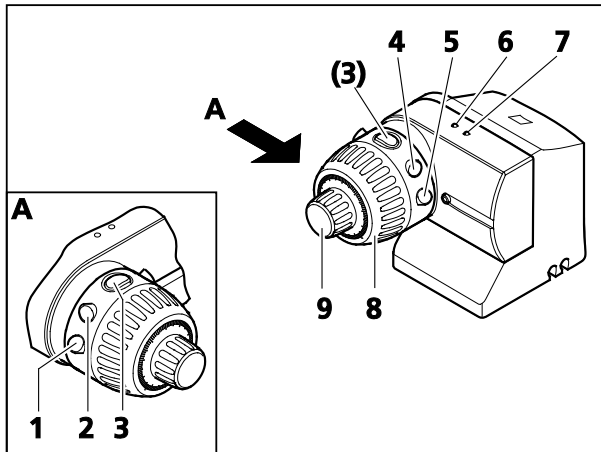

Fig. 27 Control unit on the MaRC
- Control of the focus motor by coarse (Fig. 27/8) and fine drive (Fig. 27/9)
- Travel to zoom clickstop positions by briefly pressing keys **1** and **2** (Fig. 27/1 and 2).
- Quick zoom – press keys **1** and **2** (Fig. 27/1 and 2).
- Quick zoom – press keys **4** and **5** (Fig. 27/4 and 5).
- Save a focus position – key **3** (Fig. 27/3), see also Section 4.2.6, page 42.
- Travel to a pre-saved position – key **3** (Fig. 27/3), see also Section 4.2.7, page 42.
- Reversing rotation of the MaRC unit – key **3** (Fig. 27/3), see also Section 4.2.8, page 42.
- Green control lamp (Fig. 27/6) for visual confirmation of an input or acceptance of a setting (corresponds to acknowledgement signal).
- Blue control lamp (Fig. 27/7) indicates readiness of the MaRC.
If a focus motor ready for operation is connected, the blue LED (Fig. 27/7) will light up.
The focus motor can be controlled quickly or slowly by turning the coarse (Fig. 27/8) and fine drive (Fig. 27/9).
When key **1** or **2** (Fig. 27/1 or 2) is briefly pressed (≤ 200 ms), the zoom body will travel to the next lower or higher clickstop position.
When key **1** or **2** (Fig. 27/1 or 2) is pressed for > 200 ms the zoom body will start moving; it will not stop until the respective key is released or the limit position is reached.
When key **4** or **5** (Fig. 27/4 or 5) is pressed the motor control will start to move upwards (**5**) or downwards (**4**); it will not stop until the respective key is released or the limit position is reached.
The current focus position will be stored when key **3** (Fig. 27/3) is pressed for between 2 and 5 seconds.
The green LED (Fig. 27/6) will briefly light up and **one** short beep tone on the motorized focusing system issued to indicate completion of the storing process after 2 seconds.
When key **3** (Fig. 27/3) is pressed for < 2 seconds the motor will travel to the stored focus position.
The direction of rotation will be reversed if key 3 (Fig. 27/3) is pressed for more than 5 seconds.
While pressing, first of all a **single** beep tone, then **two** tones will be issued and the green control lamp (Fig. 27/6) will flash once or twice. This indicates that the reversal has been completed.